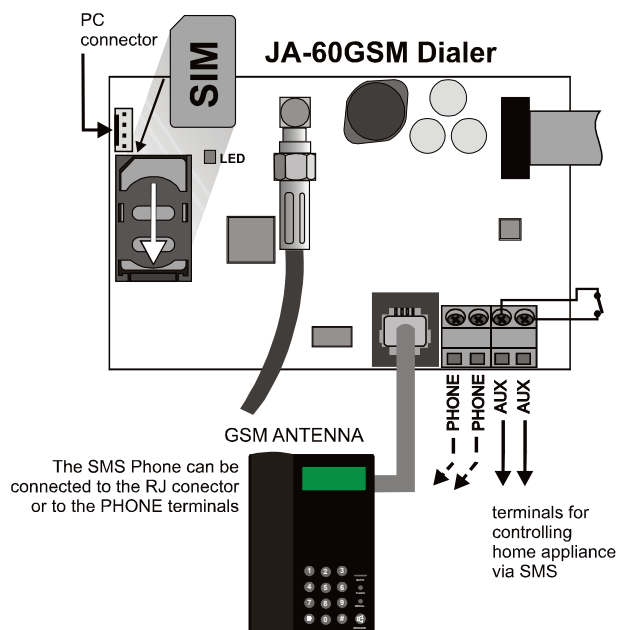

figure 1
- Open the SIM card holder** (by sliding it in the direction shown in figure 1) and **insert the SIM card** into the holder and **close it** by sliding it back. – see figure 1.
- If you use the **AUX output** to control an appliance, connect its cable to the AUX output terminals (normally open dry contact, max. 100mA / 60V) – see figure 1.